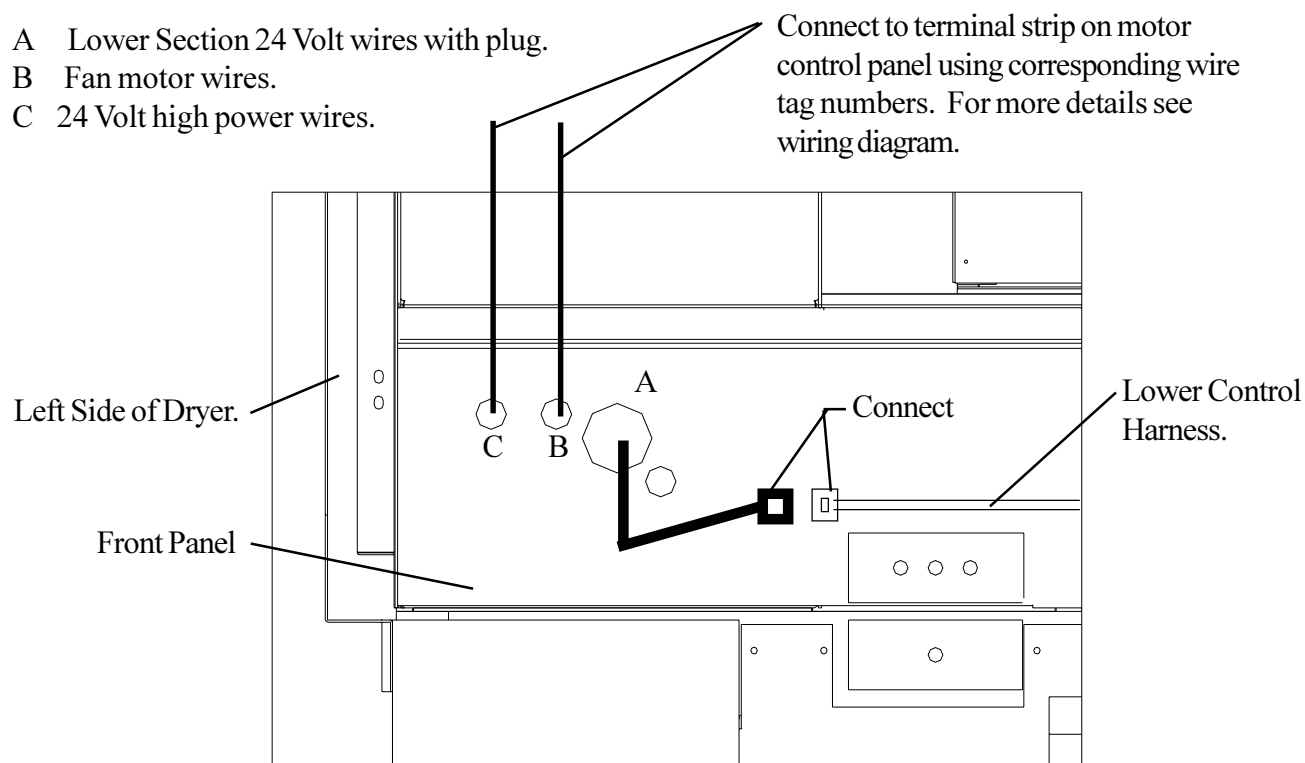

Figure-4B
STEP 11: Connect Lower Section 24V wires with plug (labeled F1-F3) into Lower Control Harness which runs across the front of the dryer (See Figure-4B). Connect Fan Motor wires into terminal strip in right control box on front of dryer using corresponding numbers on wire tags (See Figure-4B). Connect Run 24V High Power wires (labeled L1-L3) into terminal strip in right control box on front of dryer using corresponding numbers on wire tags (See Figure-4B).